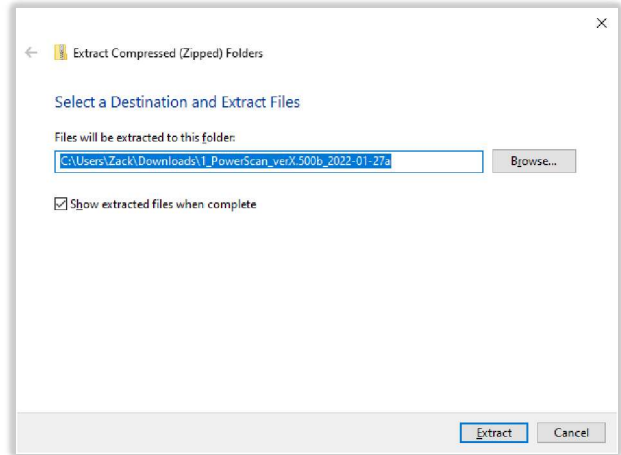

Figure 25
7. In the next window that appears, click *extract*. The files will automatically be collated into a new unzipped folder with the same name and location as the zipped folder, unless otherwise specified here. Leaving the *show extracted files when complete* box checked, will automatically open a new folder showing the extracted files. *Figure 25*